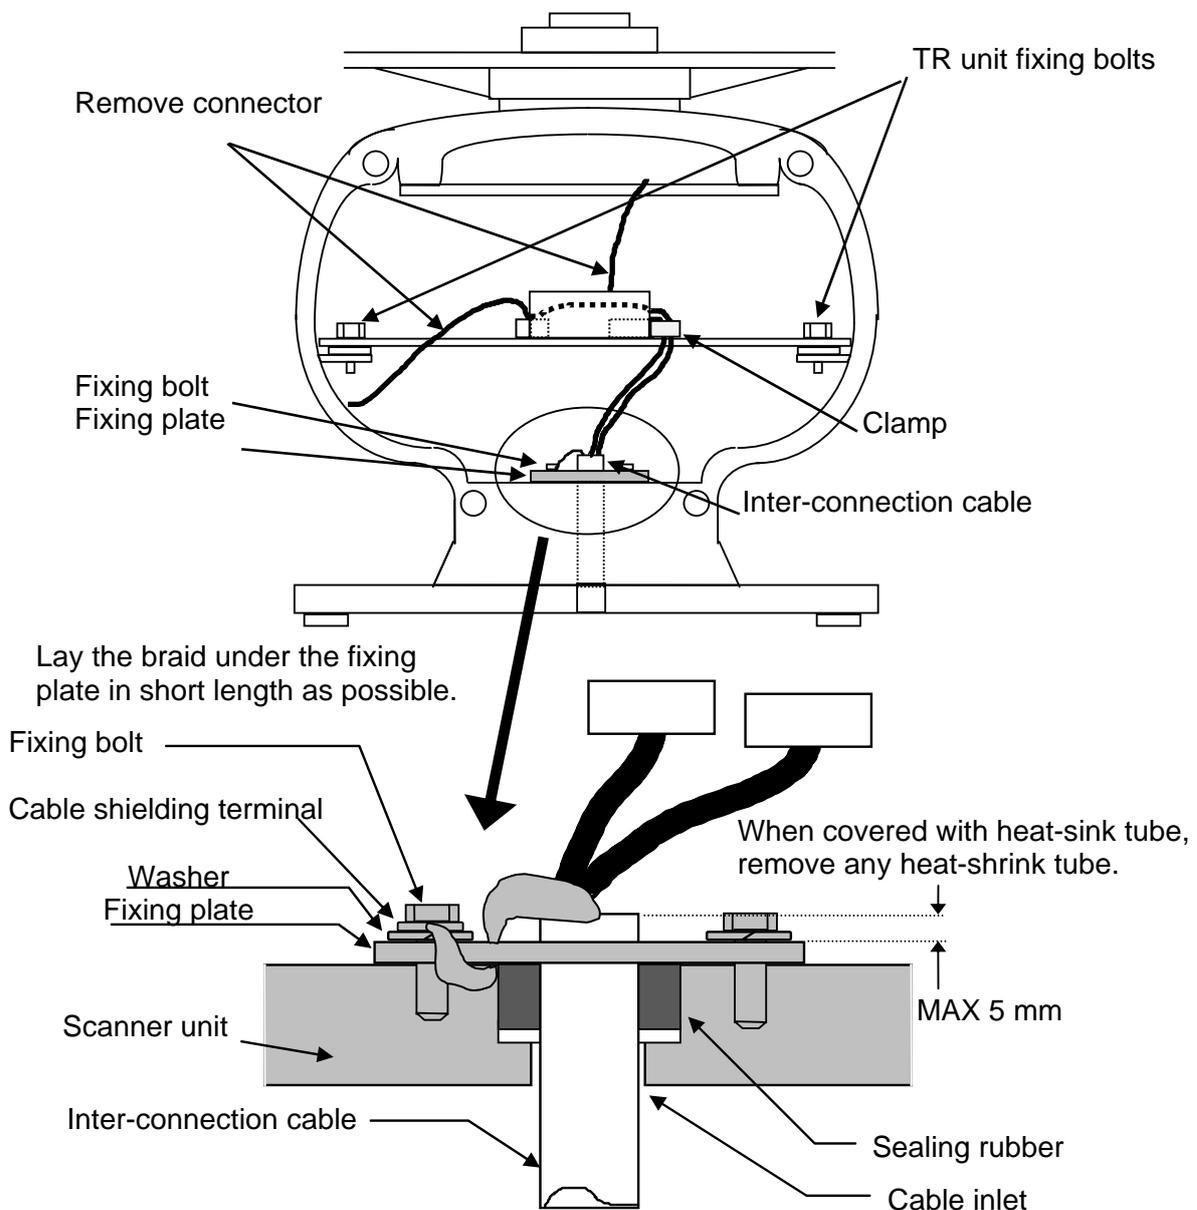

Fig.3-9 Fitting interconnecting cable
3.7.2 Interconnecting cable (MDC-740 Open scanner) (See Fig.3-9)